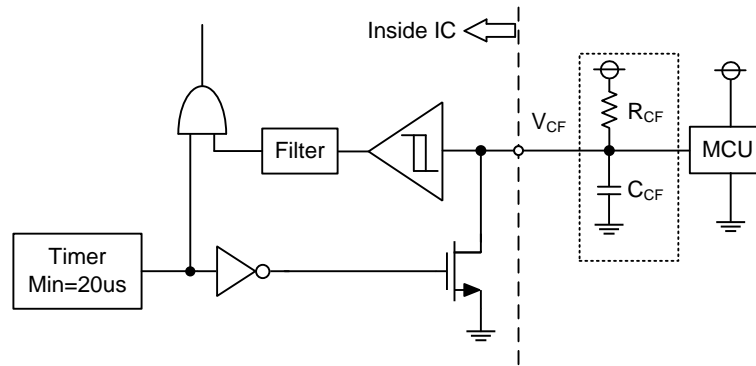

Figure 4. V_{CF} Output Circuit
- (1) If the control GND is connected with the power GND by common broad pattern, it may cause malfunction by power GND fluctuation. It is recommended to connect the control GND and power GND at a single point (N1), near the terminal of the shunt resistor.
- (2) There are two COM pins in the IPM but it is recommended to only use the (15) COM pin to minimize SC detection noise.
- (3) A zener diode D1 (24V/1W) is recommended between each pair of control supply pins to prevent surge destruction.
- (4) Prevention of surge destruction can further be improved by placing the bus capacitor as close to pin P and N1 as possible. Generally a 0.1-0.22 μ F snubber capacitor C3 between the P-N1 terminals is recommended.
- (5) Selection of the R1*C4 filter components for short-circuit protection is recommended to have tight tolerance, and is temperature-compensated type. The R1*C4 time constant should be set such that SC current is shut down within 2 μ s; (typically 1.5-2 μ s). R1 and C4 should be placed as close as possible to the C_{SC} pin. SC interrupting time may vary with layout patterns and components selection, therefore thorough evaluation in the system is necessary.
- (6) NTC signal line should be pull up to the positive side of the 5V/3.3V logic power supply with a proper resistor R2.
- (7) To prevent malfunction, traces A, B, and C should be as short as possible.
- (8) It is recommended that all capacitors are mounted as close to the IPM as possible. (C1: electrolytic type with good temperature and frequency characteristics. C2: ceramic type with 0.1-2 μ F, good temperature, frequency and DC bias characteristics.)
- (9) Input drives are active-high. There is a minimum 3.5kΩ pull-down resistor in the input circuit of IC. To prevent malfunction, the layout to each input should be as short as possible. When using RC coupling circuit, make sure the input signal levels meet the required turn-on and turn-off threshold voltages.
- (10) V_{CF} output is open drain type. It should be pulled up to MCU or control power supply (max= $5\pm 0.5V$), limiting the current (I_{CF}) to no more than 1mA. I_{CF} is estimated roughly by the formula of control power supply voltage divided by the pull-up resistor R3. For example, if control supply is 5V, a 10kΩ (over 5kΩ) pull-up resistor R3 is recommended.
- (11) If only a pull-up resistor R3 of 10kΩ connected to V_{CF} pin, the fault output pulse width is fixed at minimum 20us. If a capacitor C5 is connected with a pull-up resistor R3, the fault output pulse width can be controlled according to the resistor value and capacitor value. For the design guide, please refer to the Figure 4.
- (12) Direct drive of the IPM from the MCU is possible without having to use opto-coupler or isolation transformer.
- (13) The IPM may malfunction and erroneous operations may occur if high frequency noise is superimposed to the supply line. To avoid such problems, line ripple voltage is recommended to have $dV/dt \leq \pm 1V/\mu s$, and $V_{ripple} \leq 2V_{p-p}$.
- (14) It is not recommended to use the IPM to drive the same load in parallel with another IPM or inverter types.